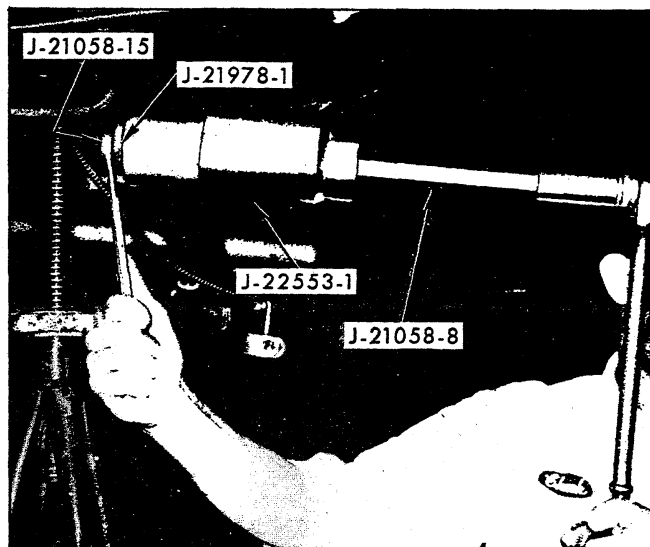

Fig. 24—Removing Spring Front Bushing (Camaro)
- a. Position remover adapter J-21978-1 over puller screw J-21058-15 so that adapter is against head of puller screw. Refer to Figure 24 for view of removal tools.